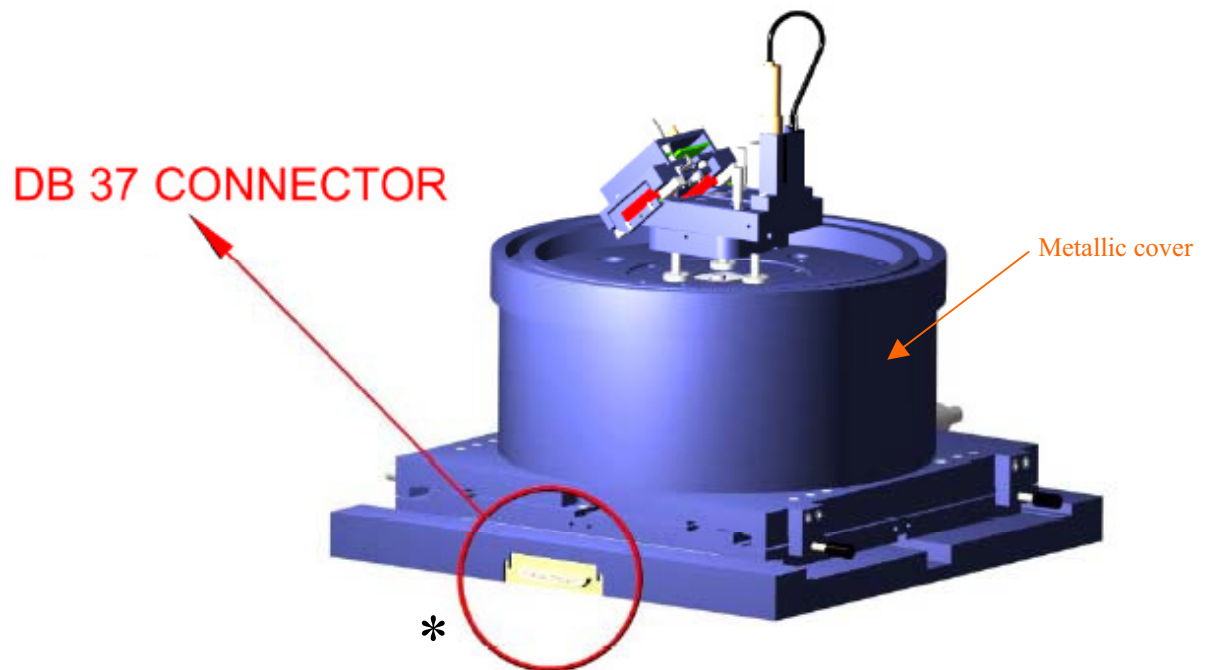

Fig.2.12 Dulcinea connection
- Metallic cover for the chassis (you will see it in Fig.2.12).